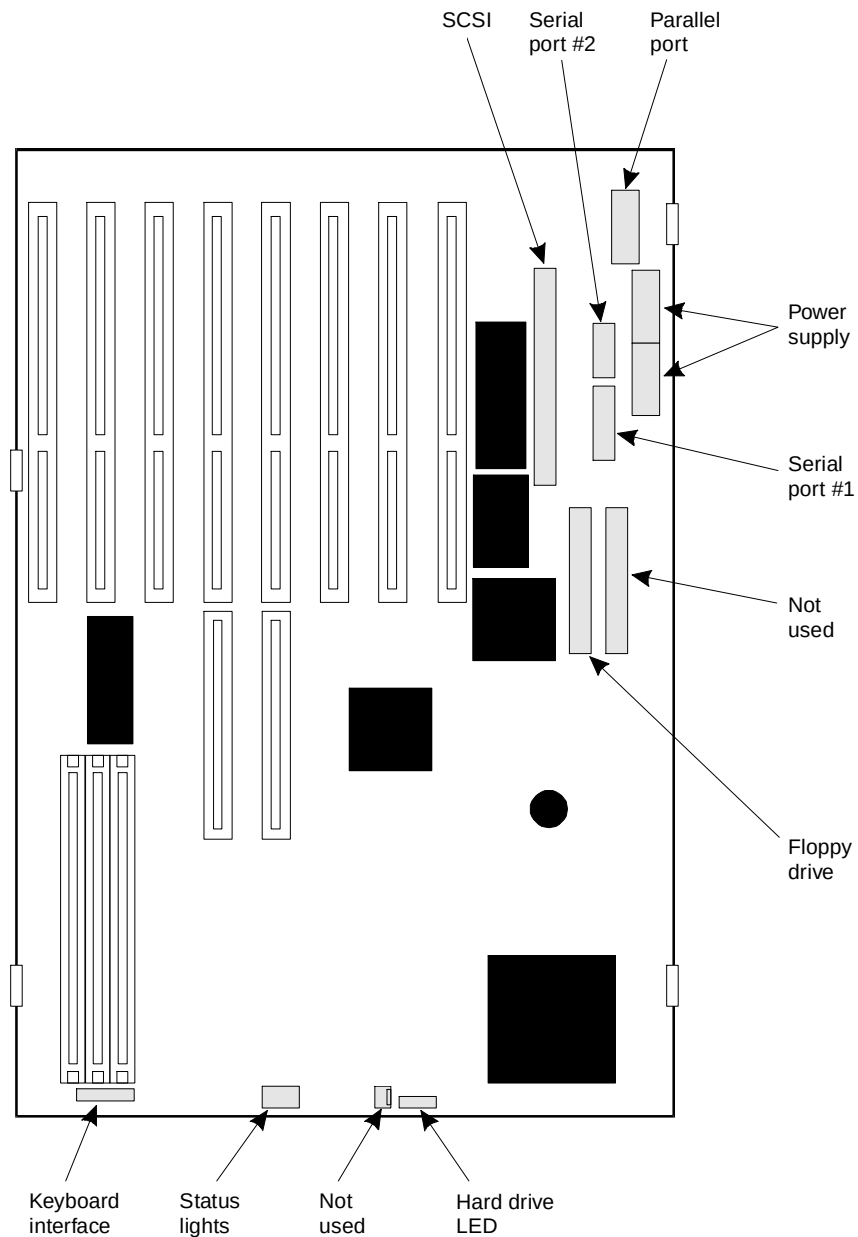

Figure C-6. Cable Connector Locations on the System Board
2. Disconnect all cables from the system board. Begin with the three small cables at the front of the MAP/5 as shown in Figure C-6 below.
3. Remove the seven power and ribbon cables at the top right of the board as shown in Figure C-6 below.
5. Replace the mounting screws in the locations shown in Figure C-6.